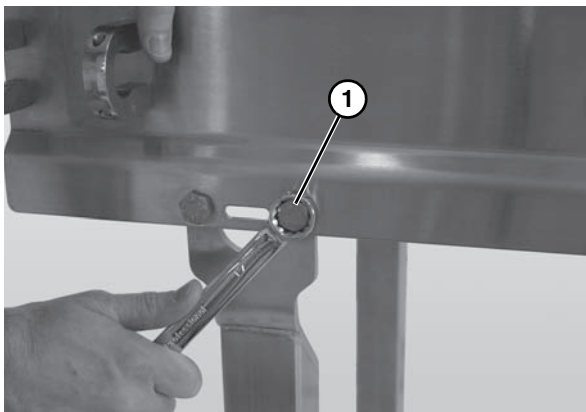

Figure 6
2. Attach the stands to the frame (Figure 6, item 1).